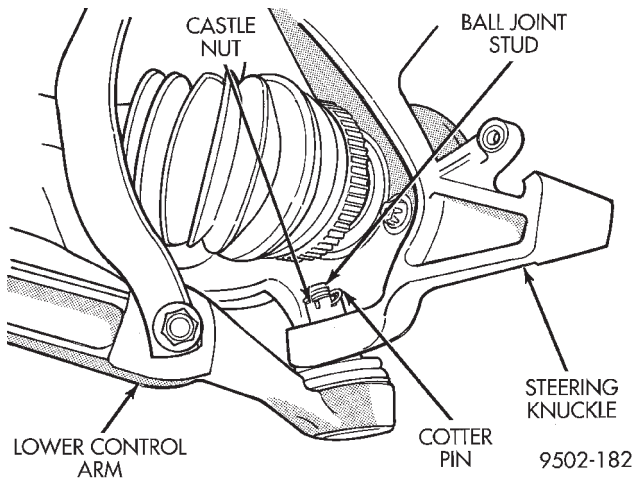
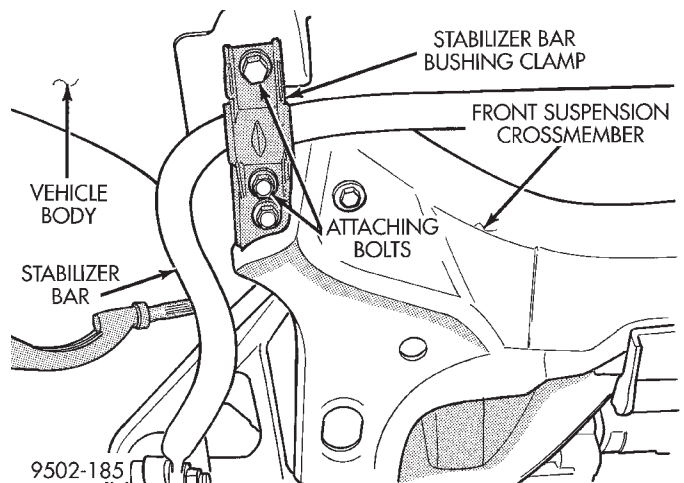
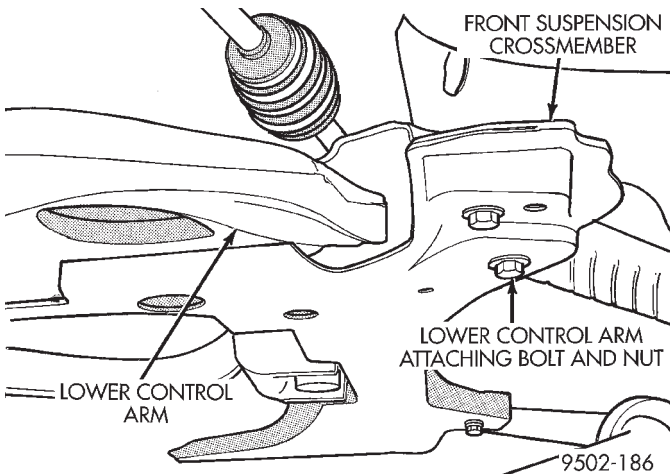
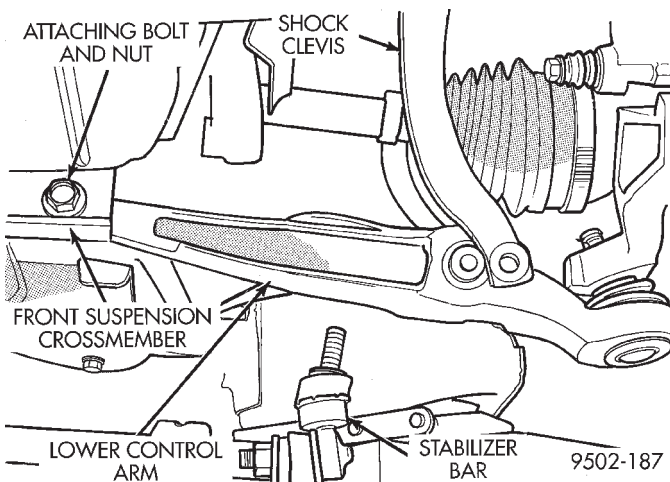

Fig. 53 Lower Ball Joint To Steering Knuckle Attachment
Fig. 57 Stabilizer Bar Bushing Clamp Attachment To Vehicle
Fig. 58 Lower Control Arm Attachment To Front Suspension Crossmember
Fig. 59 Attaching Front Of Lower Control Arm To Suspension Crossmember
(6) Remove brake rotor from front hub/bearing assembly.
(7) Remove cotter pin and castle nut (Fig. 53) from stud of lower ball joint.
(11) Remove the bolts (Fig. 57) attaching one stabilizer bar bushing clamp to the front suspension crossmember and the body of the vehicle.
(12) Lower the one side of the stabilizer bar away from the lower control arm and body of vehicle.
(13) Remove the nut and bolt (Fig. 58) attaching the lower control arm to the front suspension crossmember.
(14) Remove nut and bolt attaching the front of the lower control arm to the front suspension crossmember (Fig. 59).
(1) Position rear of lower control arm into front suspension crossmember first. Then install front of lower control arm in front suspension crossmember. Install bolts and nuts (Fig. 58) and (Fig. 59) attaching the front and rear of lower control arm to front suspension crossmember. **Do not tighten front attaching bolt at this time.**
(2) Tighten rear lower control arm nut and bolt (Fig. 58) to a torque of 115 N·m (85 ft. lbs.).
(3) Install lower control arm ball joint stud into steering knuckle. Install steering knuckle to ball joint stud castle nut (Fig. 53). Torque castle nut to 74 N·m (55 ft. lbs.). Install cotter pin (Fig. 53) in ball joint.
(4) Position sway bar link into its lower control arm mounting hole.
(5) Align sway bar bushing clamp with mounting holes in front suspension crossmember and body of vehicle. Install and tighten the bushing clamp mounting bolts (Fig. 57) to a torque of 61 N·m (45 ft. lbs.).
(10) Tighten front lower control arm nut and bolt (Fig. 59) to a torque of 182 N·m (135 ft. lbs.).